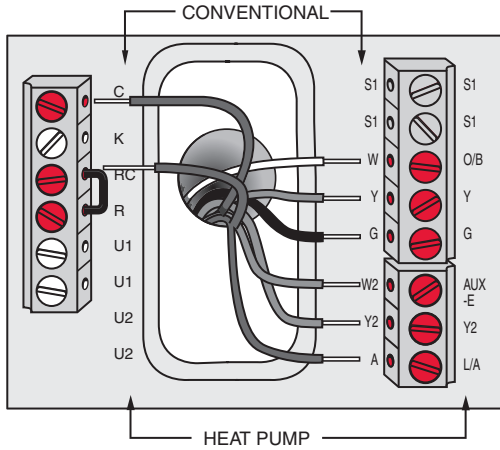

Fig. 13. Thermostat wired directly to equipment.
1. Refer to Fig. 13. See Table 9 on page 84 for terminal designations and “Wiring” beginning on page 84 for more information.